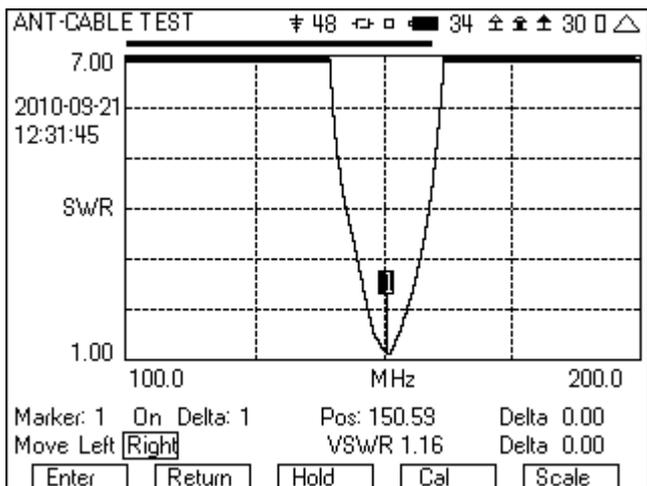

Figure 29 - VSWR with marker
10. Figure 29 shows a sweep of a VHF antenna. The marker is shown after moving it to the minimum VSWR. The VSWR field displays the VSWR at the frequency given by the Pos field.